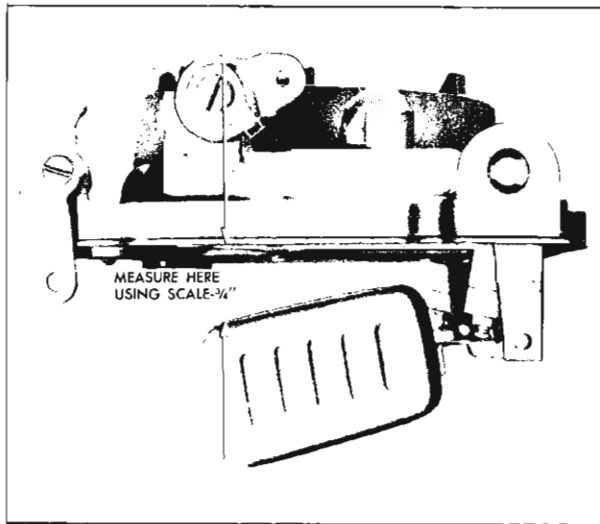

Fig. 32—Adjusting Float Drop
7. Adjust Float Drop. With air horn held in upright position, measure vertical distance from air horn gasket to outer end of each float using a scale. Bend float arm tang as required to obtain $\frac{3}{4}$ " measurement (fig. 32).